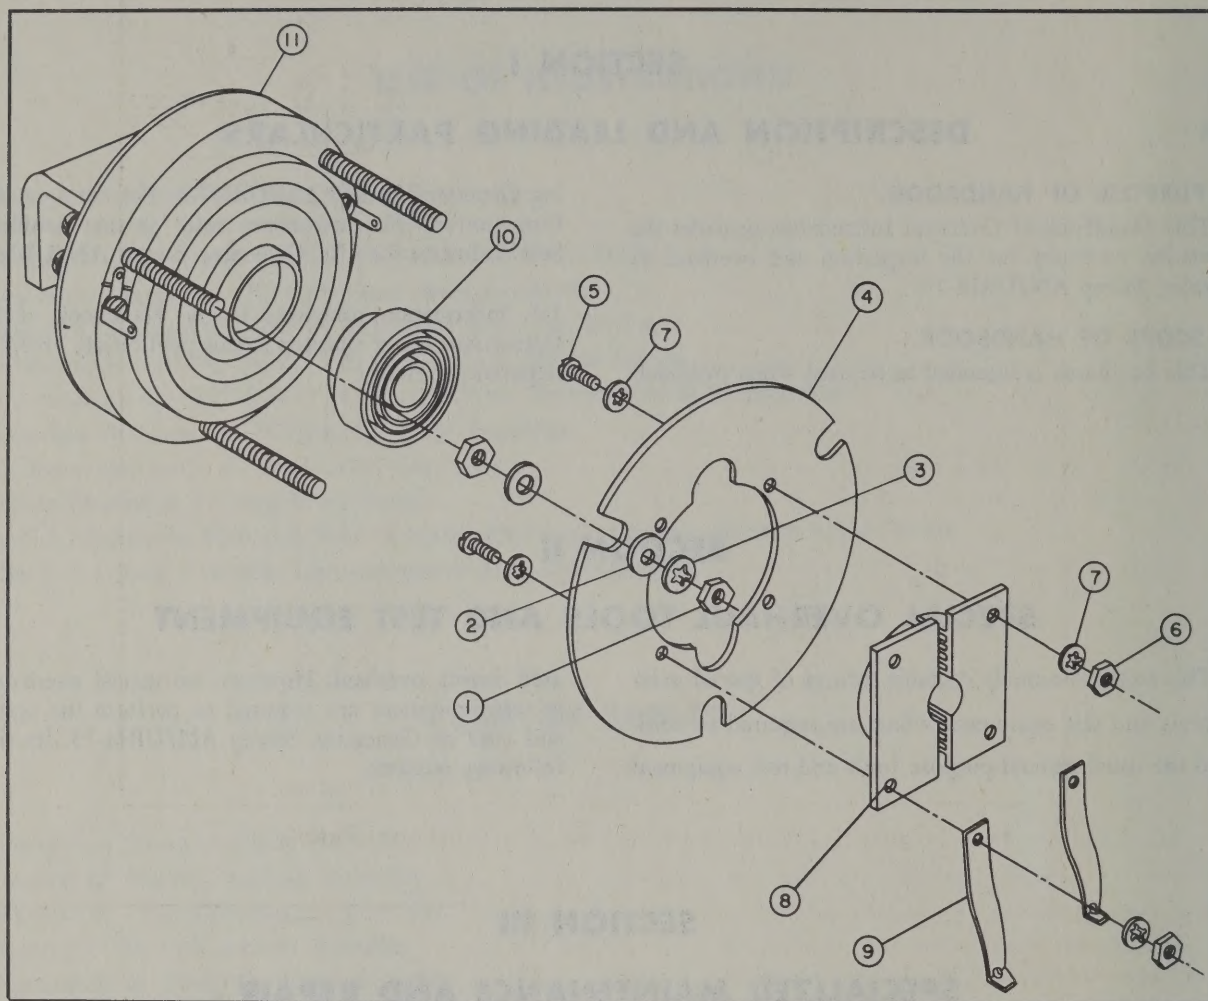

Figure 3-1. Sweep-Motor Assembly, Exploded View
b. Referring to figure 3-1, remove the three nuts (1), flat washers (2), and lock washers (3), which mount bakelite plate (4).